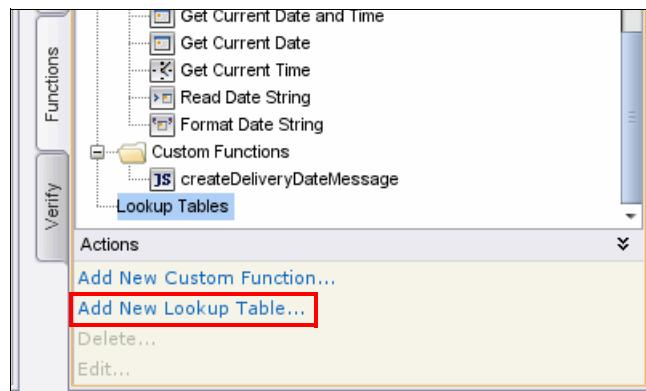

Figure 12-35 Creating a lookup table
- With the Functions tab selected, click the **Add New Lookup Table** link that is located at the bottom of the Actions panel, as shown in Figure 12-35. You also can create a lookup table by right-clicking the **Lookup Tables** node.